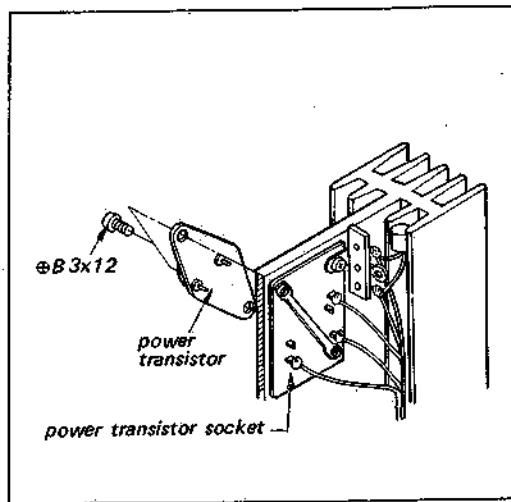

Fig. 2-6. Power transistor replacement
3. Remove the two screws ($\oplus B\ 3\times 12$) securing the power transistor to the heat sink with its socket as shown in Fig. 2-6.